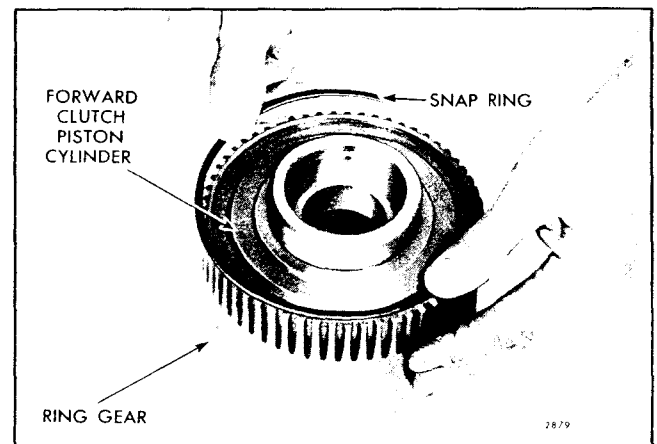

Fig. 62 - Installing Forward Clutch Piston Cylinder Snap Ring in Ring Gear
- n. Place the ring gear and forward clutch assembly on a bench, with the forward clutch piston cylinder end facing up; then, install the snap ring in the groove inside the ring gear next to the piston cylinder as shown in Fig. 62.
NOTE: The forward clutch piston cylinder snap ring shown in Fig. 62 is .074"-.078" thick and has a free diameter of 5-7/8" + 1/16" and is only used at this location to retain the forward clutch piston cylinder in the ring gear.